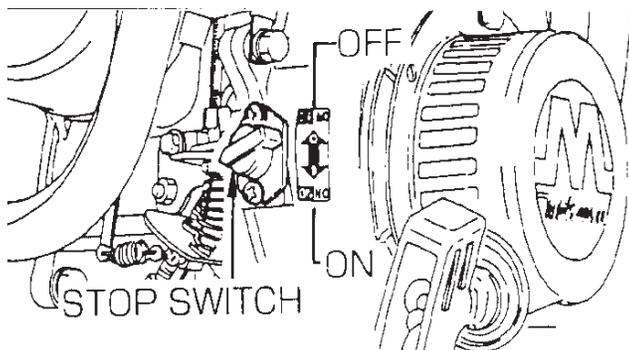
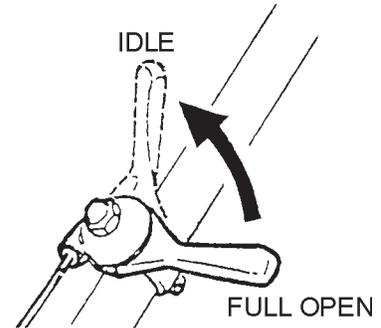

Figure 6. Engine On/Off Switch
Figure 11. Throttle Lever (Idle)
2. Set the engine ON/OFF switch (Figure 6) to the "ON" position (start).
1. Move throttle lever quickly from the **FULL OPEN** to **IDLE** position (Figure 11) and run the engine for three minutes at low speed. After the engine **cools**, turn the engine *start/stop* switch to the “**OFF**” position (Figure 6) until engine comes to a complete stop.
1. Move the throttle lever quickly to the **IDLE** position, and turn the engine start/stop switch (Figure 6) to the **STOP** position.